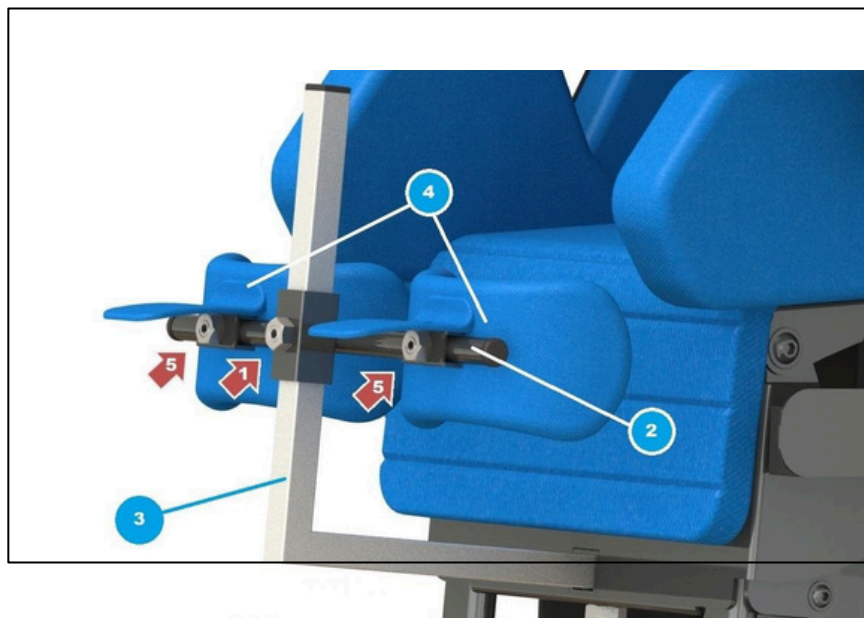

Fig. 9 Adjusting the kneepads.
Adjusting the angle of the kneepad position and left-right position is undergoing by moving and rotating pads of the kneepad (4) on the kneepad's bar (2) fig 9. To make an adjustment of the kneepad angle and left-right position, you should loosen the knob 5 (fig 9), set the kneepad's pad into required position and then tighten the knob 5. Adjustment is made separately for both left and right kneepad's pad.